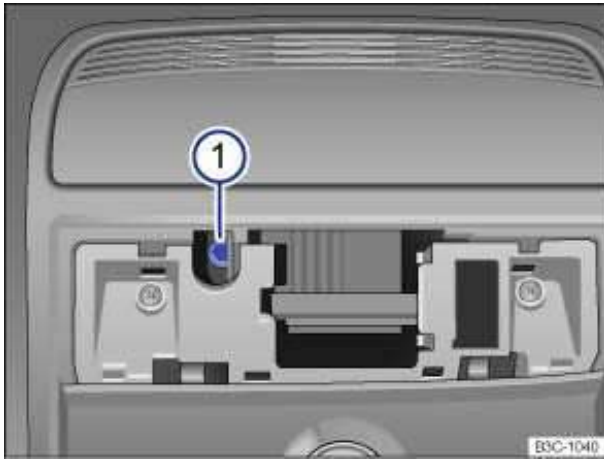

Fig. 166 Hexagonal head screw for closing the power sunroof.
2. Insert a commercially available 1/6 in (4 mm) Allen wrench¹⁰ into the hexagonal head screw ⇒ fig. 166 \(1\).